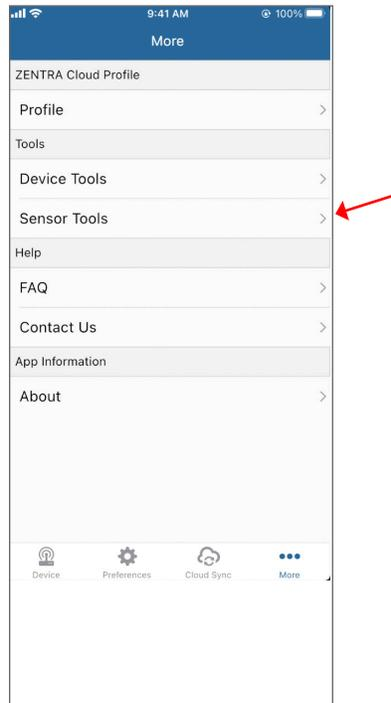

Figure 14 Open Sensor Tools screen
8. Select Sensor Tools on the More screen (Figure 14) to open the Sensor Tools screen.